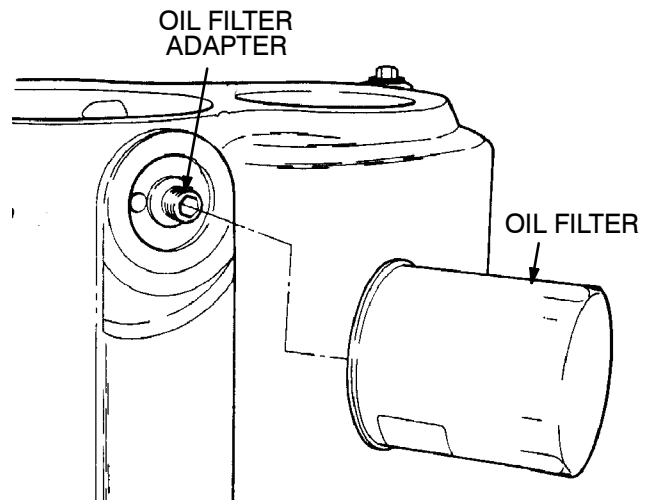

Figure 108.
- (21) Lubricate the gasket of the new oil filter with the lubricant that is used in the axle housing. Install the oil filter on the adapter. Tighten the oil filter 3/4 of a turn after the gasket on the filter touches the carrier. If necessary, use an oil filter wrench to tighten the filter. Figure 108.